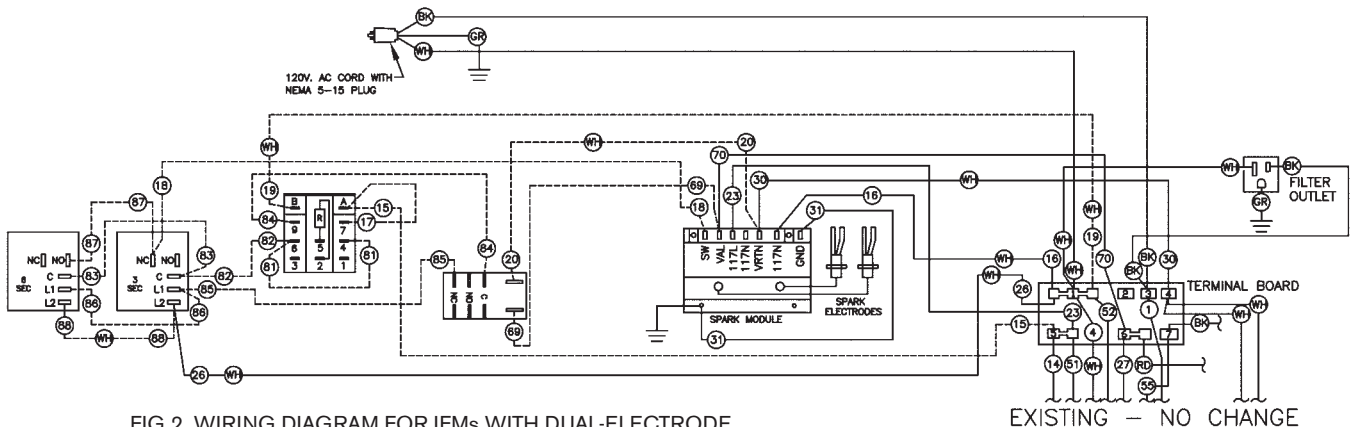

FIG 2. WIRING DIAGRAM FOR IFMs WITH DUAL-ELECTRODE SPARK IGNITION MODULE (PART # 019724) AND RELIGHT CIRCUIT
2. Remove and discard the following wires: wire # 15, 17, 18, 19, 20, 69, 81, 82, 83, 84, 85, 86, 87 and 88. These wires are shown by dotted lines in Fig. 2 below. Also disconnect wire #26 (shown by a solid line in Fig. 2) from the relight circuit. Unscrew and discard all the relight circuit components.